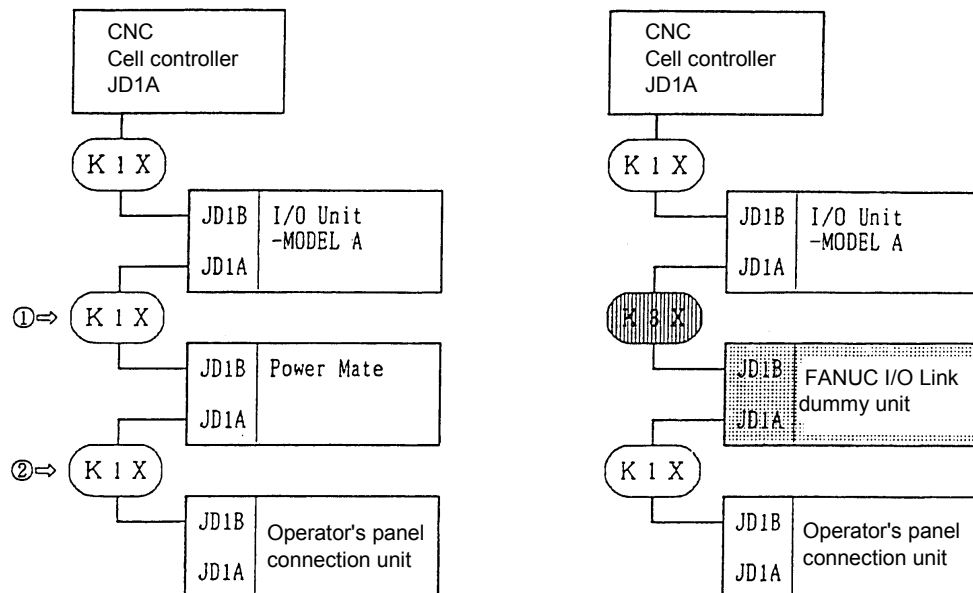

Fig. 11.7.1 Example of Using the FANUC I/O Link Dummy Unit
- (1) Replacing a cable
The FANUC I/O Link dummy unit is supplied with power from the preceding or following group via a K3X cable. So, the K1X cable at either JD1A or JD1B of the dummy unit must be replaced with the K3X cable (① or ② in Fig. 11.7.1).